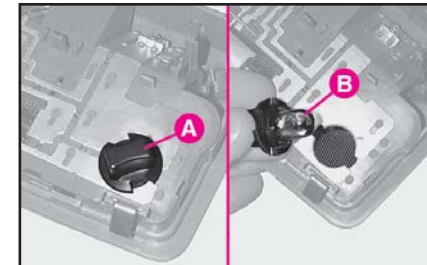

fig. 29
- Remove the bulb (**B**) by turning light socket to left (**A-fig. 29**);